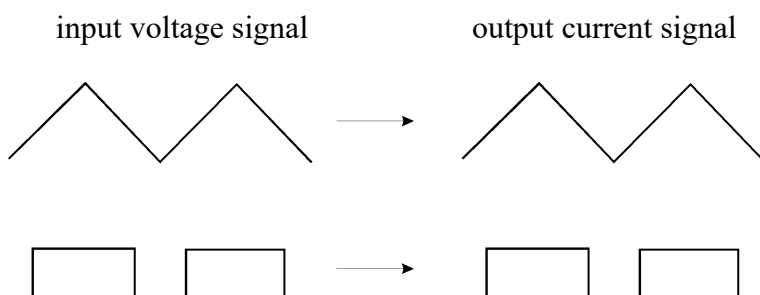

Figure 3: input-output relation using CURRENT INPUT
Analog input BNC connector for application of signals from an external stimulus source. The voltage signal that is connected here is transformed to a proportional current at the electrode with a sensitivity of 1 nA/V, i.e. an input voltage of 5 V is transformed to an output current of 5 nA. The signal form remains unchanged. Two examples are given in Figure 3. The amplitude of the output current signal (current stimulus) is determined by the amplitude of the input voltage signal.
(26) CURRENT INPUT 0.1 nA/V connector
Analog input BNC connector for application of signals from an external stimulus source. The voltage signal that is connected here is transformed to a proportional current at the electrode with a sensitivity of 0.1 nA/V, i.e. an input voltage of 5 V is transformed to an output current of 0.5 nA. The signal form remains unchanged (see also (24) and Figure 3).